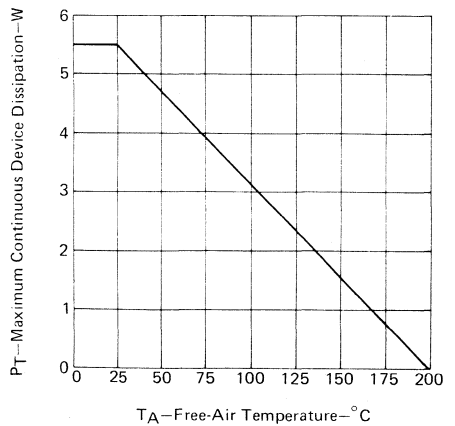

FIGURE 10
3. Derate linearly to 200°C case temperature at the rate of 1.5 W/°C or refer to Dissipation Derating Curve, Figure 10.